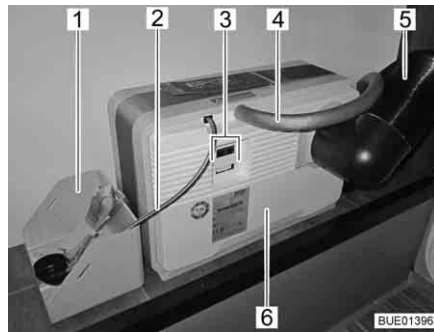
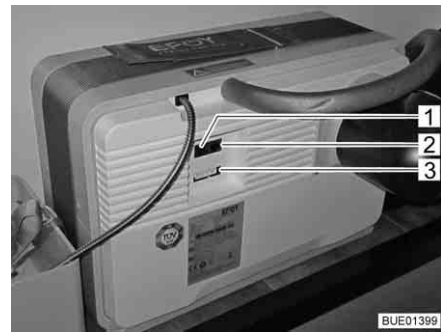
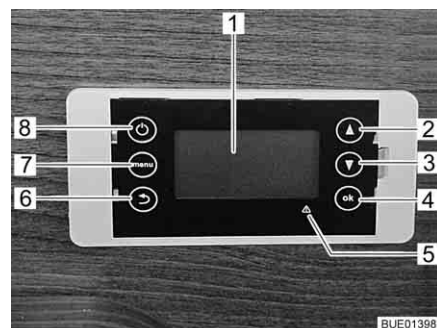

Fig. 119 Fuel cell with tank cartridge
Fig. 120 Connector panel of the fuel cell
Fig. 121 Operating unit fuel cell
The fuel cell consists of several components that are installed in the rear storage space (Fig. 119) and of an operating unit (Fig. 121) in the living area.
The following components are on the fuel cell (Fig. 119,6):
- The connector for the air discharge hose (Fig. 119,4) or the filling hole for the service fluid
- the off-heat tube (Fig. 119,5)
- electrical connections (Fig. 119,3) with data interface (Fig. 120,2), device connection (Fig. 120,3) and connection for the operating panel (Fig. 120,1)
A tank cartridge belongs to the fuel cell (Fig. 119,6). It is connected to the fuel cell via a tank connection (Fig. 119,2).
The tank cartridge is firmly fixed in the tank cartridge holder (Fig. 119,1).
The fuel cell automatically charges the living area batteries if their voltage falls below 12.3 V and if the fuel cell is switched on using the On/Off key (Fig. 121,8).
The display (Fig. 121,1) of the operating unit has four lines.
The main menu can be accessed with the menu key (Fig. 121,7):
In the event of faults, the red fault indicator (Fig. 121,5) lights up and a message appears on the display. The message consists of an error code and information on how to rectify the fault.